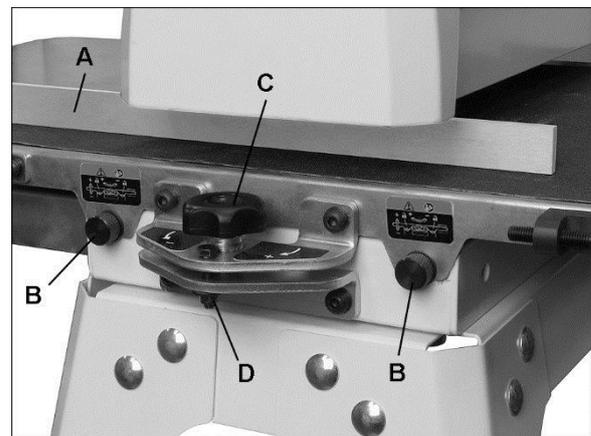

Figure 8-3: drum alignment
- Insert gauge between drum and conveyor table at outboard side of drum (A, Figure 8-3).
- Loosen both table locking screws (B, Figure 8-3)
3. If a ridge is visible where the drum overlaps, lower table at outboard end slightly by turning knob (C, Figure 8-3).
**Note:** When sanding narrow stock (less than 406mm), return conveyor table to parallel position. Turn knob opposite direction until lock nut (D, Figure 8-3) is contacted. The lock nut provides a positive stop for table parallelism.